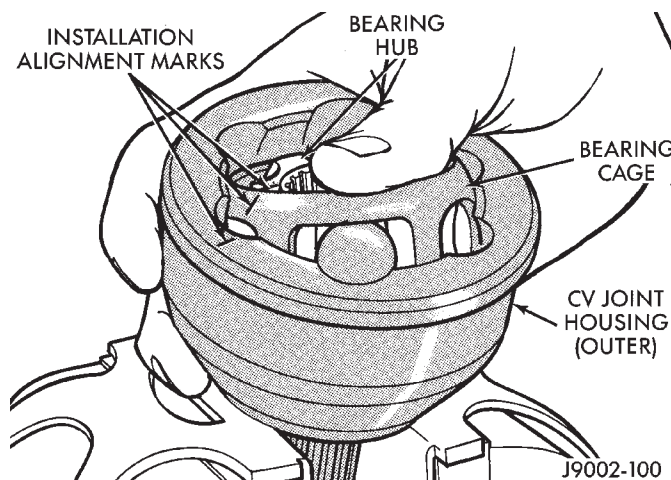

Fig. 14 Ball Access
(6) Remove the slinger, if damaged, from the outer C/V joint. Use a brass drift and a hammer. Tap slinger ring off C/V joint and discard.
(7) Remove the old lubricant. Apply installation alignment marks on the bearing hub, bearing cage and housing with dabs of paint (Fig. 14).
(8) Clamp the outer C/V joint in a vertical position. Place the stub shaft in a soft-jawed vise.
(2) Align the bearing hub, cage and housing (Fig. 14) according to the alignment reference marks.